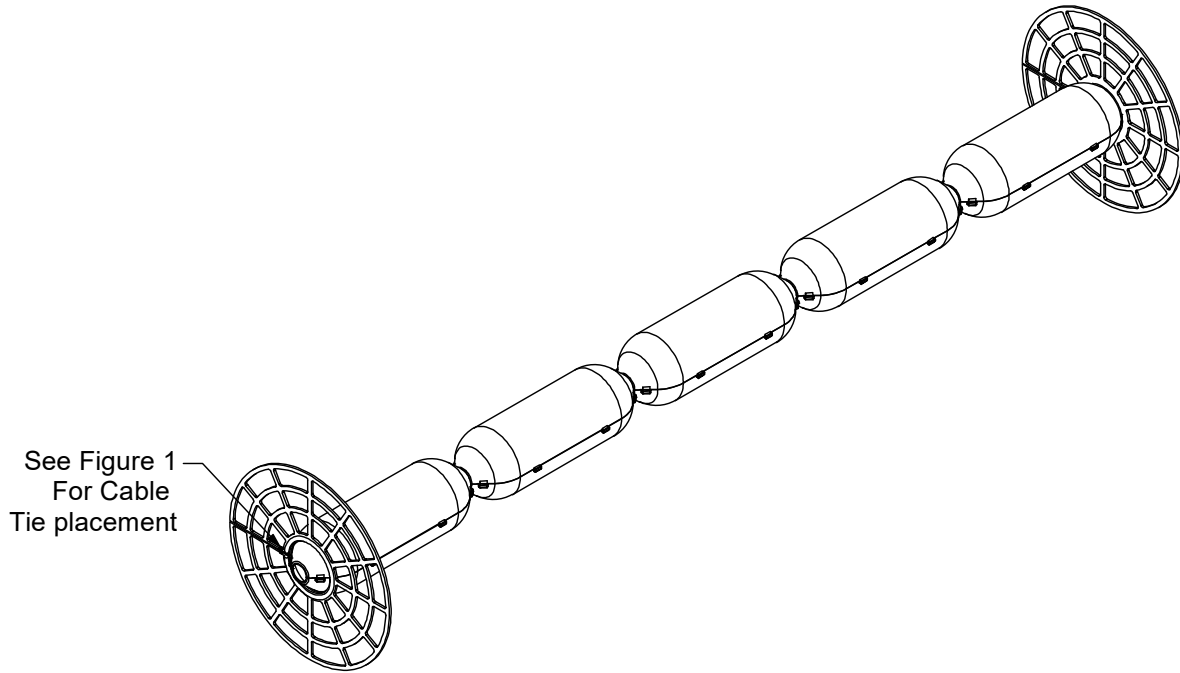

Figure 2 - Completed Line Guard
9. When the line guard installation is complete, it should appear as shown in Figure 2.